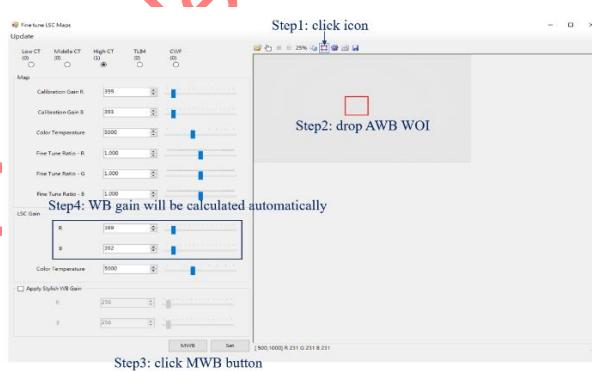
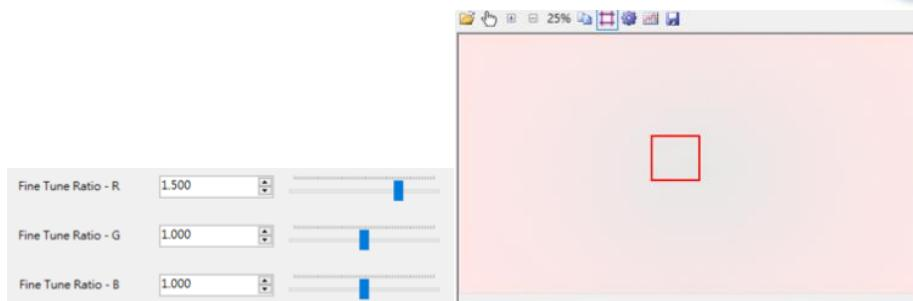

Fig 4.15 Manually calculate white balance gain SOP.
Fig 4.17 (Left) R, G and B channel table, (right) adjust R channel to get reddish result.
**Step 3.** After calibrating 5 CT shading tables, “Fine Tune” button next to calibration button will be shown. You could enter fine tune page to start fine tune. First to load the raw image and you could calibrate white balance gain by reference Fig 4.15 or manually input WB gain. Depends on Fig 4.16 interpolation ratio, fine tune R, G and B channel table (Fig 4.17) between interpolated color temperature. For example, to adjust R channel in the corresponding CT to get the reddish calibrated result (Fig 4.17).